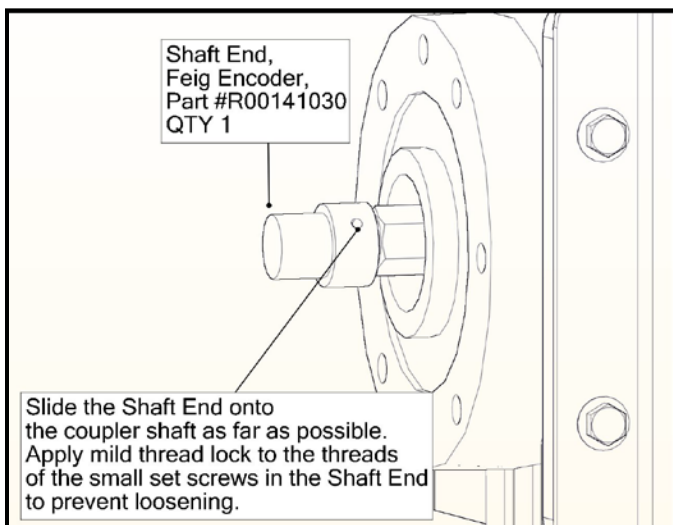

Figure 27
1. The Shaft end Feig encoder is located in the clear plastic bag attach to the antenna assembly. Mount the shaft end onto the coupler shaft, push the shaft end tightly onto the coupler shaft. The shaft end has a small set screw to tighten onto the coupler shaft. Apply mild thread lock to the small set screw to prevent loosening. (See Figure 27)